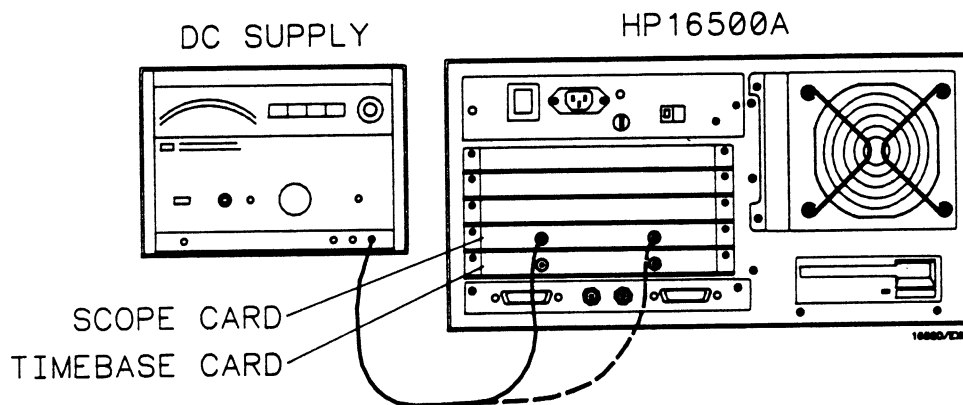

Figure 3-10. Voltage Measurement Accuracy Test Equipment Hookup
- g. Set dc supply to 100 mV and connect to channel 1. See figure 3-10. Voltage limits are now from (+81 mV +  $V_x$  measured in step f) to (+119 mV +  $V_x$  measured in step f).